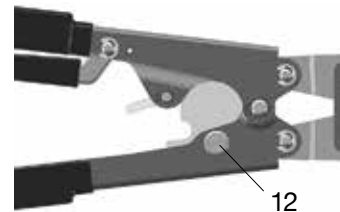

Fig. 12: Eccentric stud
3. Using a straight blade screwdriver, rotate eccentric stud (Fig. 12) counter-clockwise until jaws contact the GO/NO-GO Gauge before the NO-GO area of the Gauge.